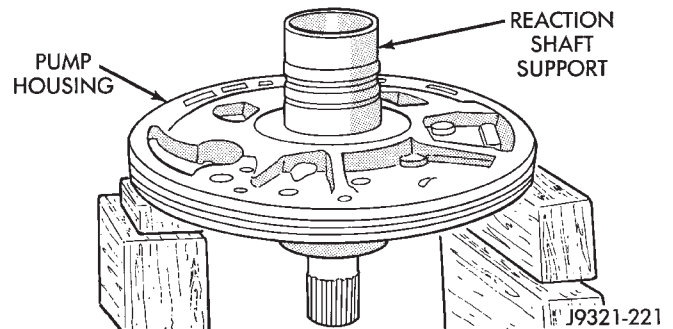

Fig. 157 Assembling Reaction Shaft Support And Pump Housing
(8) Install reaction shaft support on pump housing (Fig. 157).
(9) Align reaction support on pump housing. Use alignment marks made at disassembly. Or, rotate support until bolt holes in support and pump housing are all aligned (holes are offset for one-way fit).